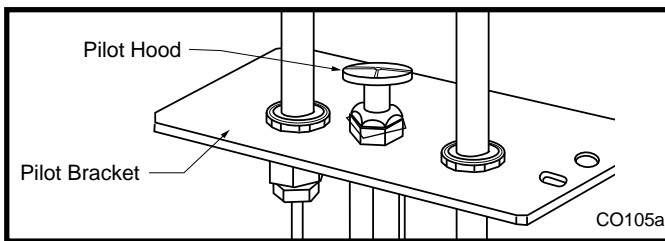

Fig. 62 Remove pilot hood.
7. Remove pilot hood by lifting up. (Fig. 62)